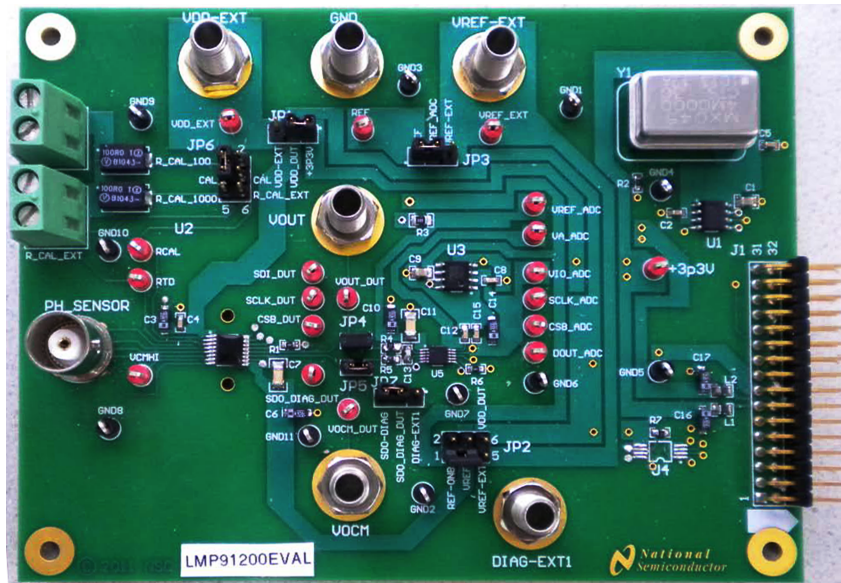

Figure 3. LMP91200EB Jumper Settings
- The LMP91200 Evaluation Board jumper connections can be seen in Figure 3 and Table 5. Jumpers not shown can be left unpopulated.